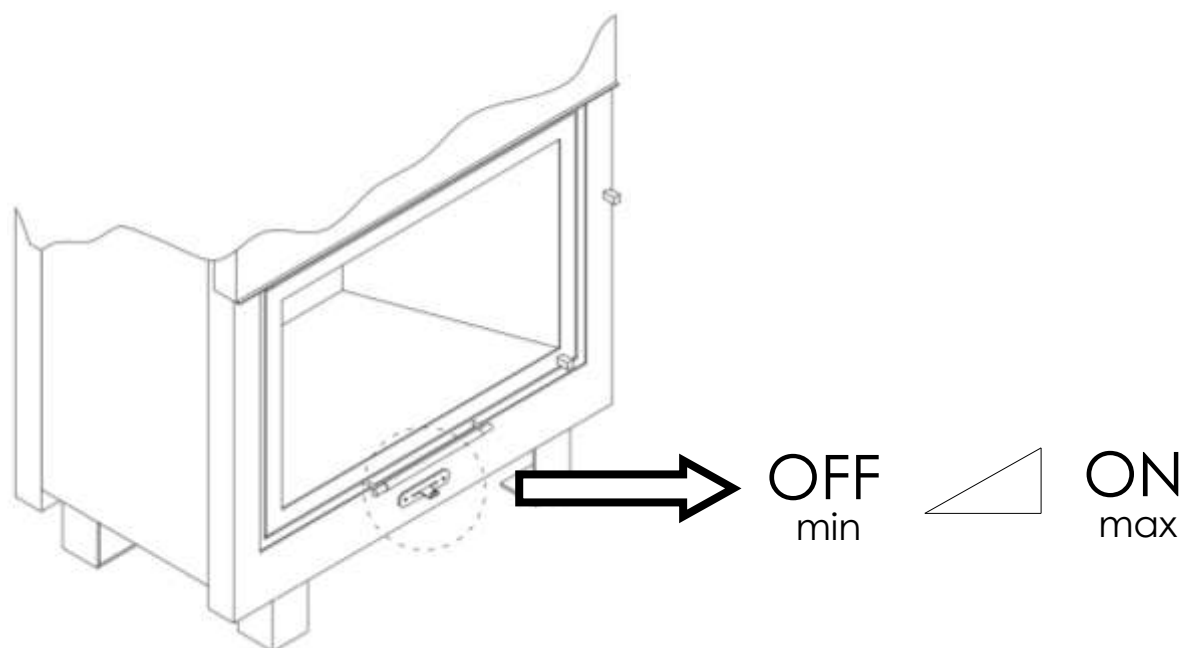

Figure 2: Typical AIR TYPE appliance primary air inlet control
- Push the flue damper control to the closed position (see Figure 2).